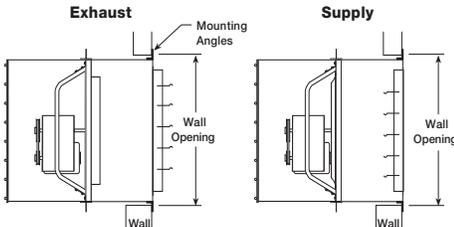

**Figure 4 — Wall Collar Installation**
the fan is to be mounted as shown in Figures 3, 4, 5 and 6 on pages 4-5. Optional wall collar (Figure 4), wall collar and guard (Figure 5) or wall housing (Figure 6) provide a convenient means of mounting sidewall fans.
4. Figure 4 shows the wall opening required for installations using a wall collar.